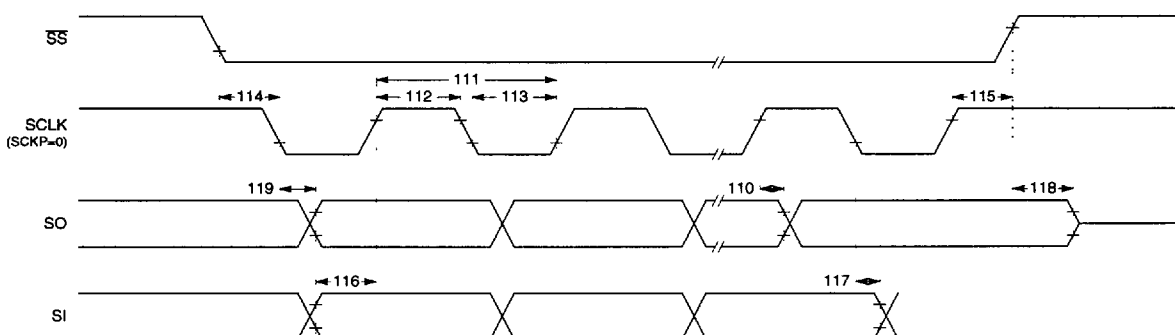

Figure 10. Serial Host Interface Timing
1. SCK polarity is controlled by field SCKP of register SPIMODE. The polarity shown in Figure 10 corresponds to SCKP=0.